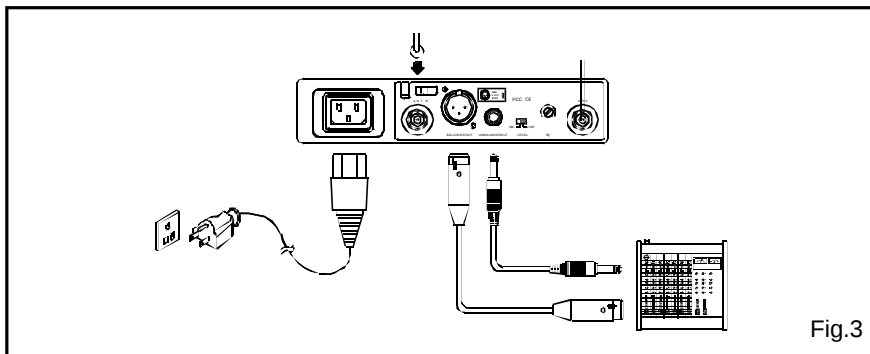

Fig.3
1. Install antenna in rear (6)(11) . Extend antenna to the fullest position. see fig. 3.
- a) Unbalanced Level Switch (9) Setting Position: When inputs the unbalanced output of a receiver into "Line-in" input jack of a mixer or amplifier or "Electric Guitar", switch the Level Switch (9) to the right "LINE" position. Low sensitivity may occur if switch to the wrong position. When input the unbalanced output of a receiver into the "MIC-IN" input jack of a mixer or amplifier; switch the Level Switch (9) to the left "MIC" position. Over load distortion may occur if switch to the wrong position. When using electric guitar, don't use "MIC" position as it may have generated insufficient level.
- (b) Unbalanced Output: Using audio output cable attached with "PHONE PLUG" type, connect one end from the unbalanced output jack (8) of the receiver, and the other end to the "LINE-IN" input jack of the amplifier.
- (c) Balanced Output: Using audio output cables attached with "XLR" or "Canon" type, connect one end from the balanced output jacks (7) of the receiver, and the other end to the "MIC IN" input jack of the mixer or amplifier, as shown in Fig. 3. (The characteristic of the 3-pin connector is as shown in Fig. 6
1. To adjust volume (5), GT/MT Switch (6), simply push down both snap locks on the sides of battery cover and flip it backwards to expose the adjustment panel.
4. Plug the microphone connector into the input jack (1) and tighten the connector screw by clockwise direction as shown in (Fig. 3).